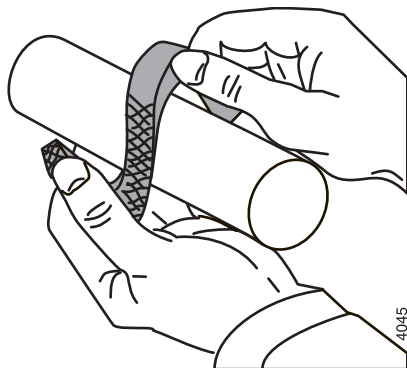

Figure 21: Axially bending open packing rings.
- Bend the new packing rings open axially. See figure 21.